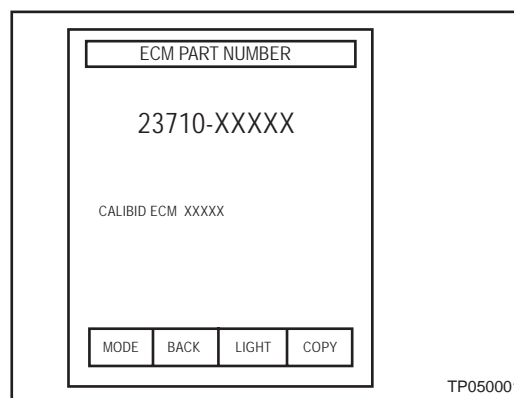

Figure 1
- Figure 1 is an example of the ECM Part Number printout.
3. Using the ECM P/N printout from Step 2 (Figure 1):